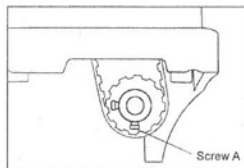

Fig. 20
29. Install synchronous belt(Fig.20)